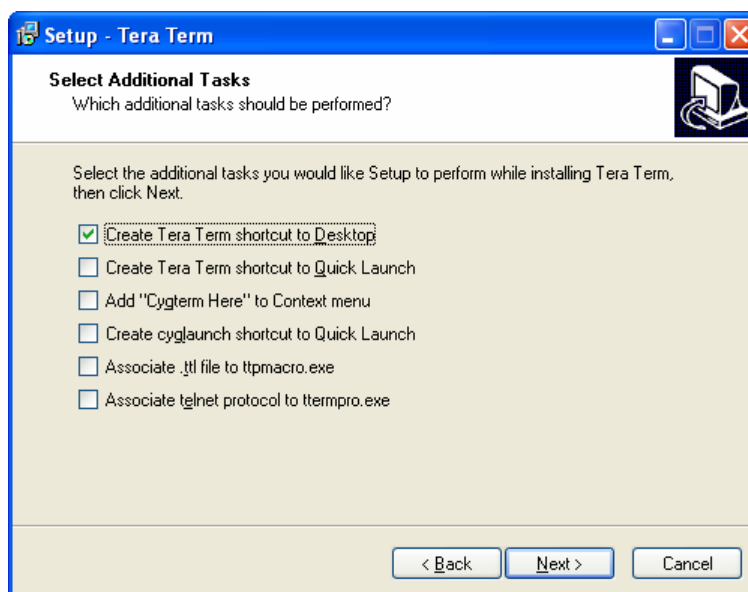

Figure 6-19: Select Additional Tasks Screen
13. At the Select Additional Tasks screen select **Create Tera Term shortcut to Desktop**, then click **Next** (Figure 6-19).